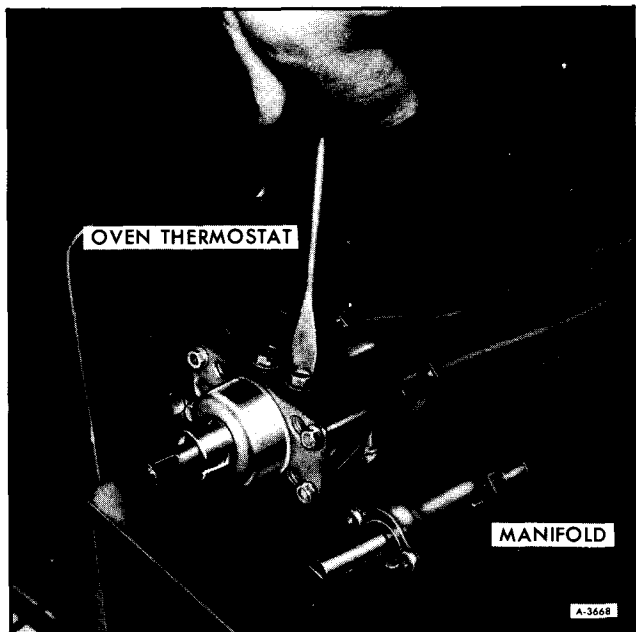

Figure 11—Removing Thermostat from Manifold
6. Remove two screws holding oven thermostat to manifold (figure 11).